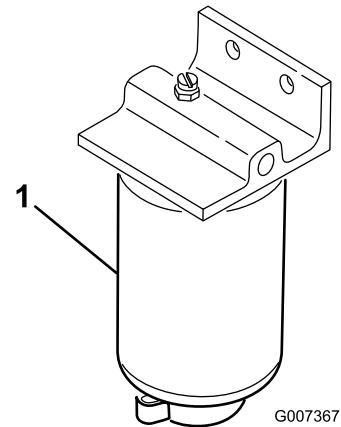

Figure 59
1. Place a clean container under the fuel filter(Figure 59).